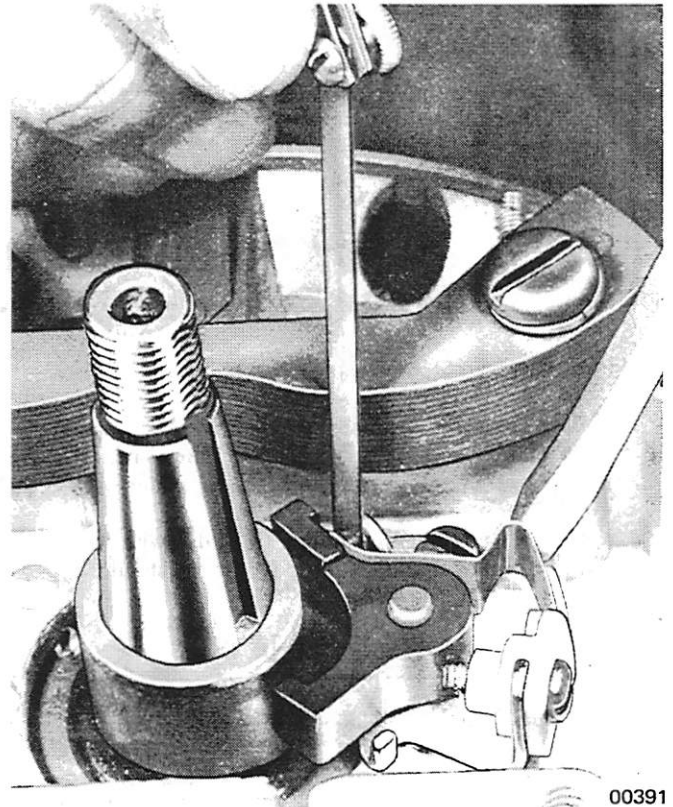

Figure 5. Setting Breaker Points
*NOTE: If degree plate is not available, set breaker arms at highest point on lobe of cam. Using feeler gauge (C-91-24262) between open faces of points, set gap at specified clearance. (Figure 5) To set other breaker point opening, rotate crankshaft 180° and set gap the same.*